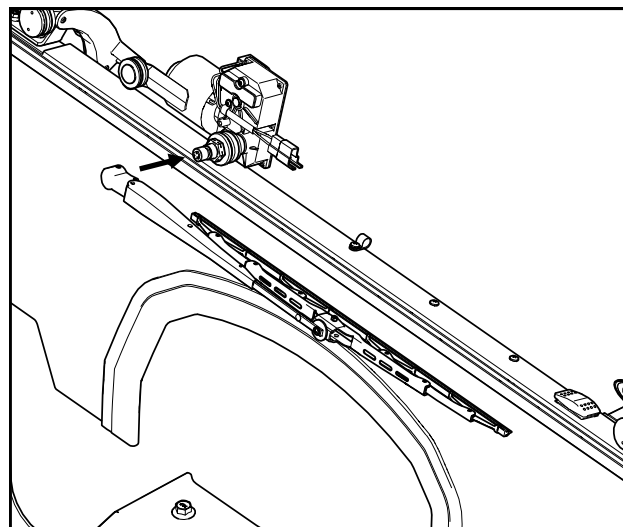

Fig. 17.3 (Install Wiper Arm and Wiper)
17.3 Install the wiper arm onto the wiper motor so that the wiper is horizontal. See Figure 17.3. Tighten the Allen Screws.